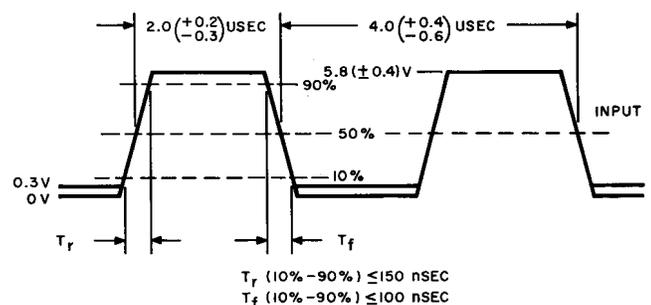
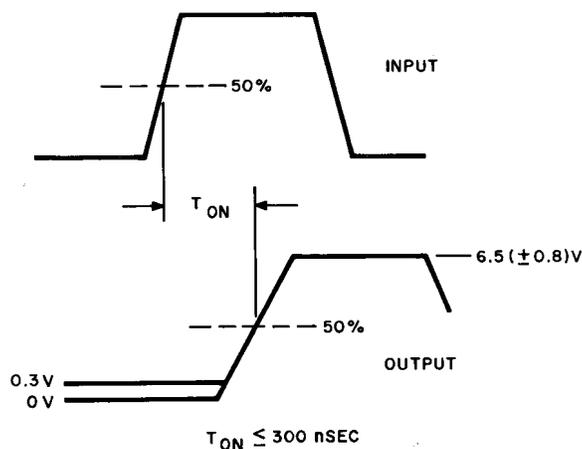
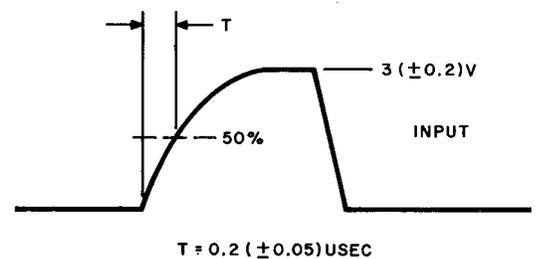

Fig. 8A — Complementary Flip-Flop Test
Fig. 9A — Complementary Flip-Flop Test
Fig. 11A — Complementary Flip-Flop Test
- (1) Connect the EXT SYNC lead to J7 on the test set.
- (2) Connect the CHAN A probe to J7 on the test set.
- (3) Connect the CHAN B probe to J4 on the test set.
- (4) The input test pulse on J7 shall be as specified in Fig. 8A.
- (5) Rotate the INPUT selector through positions 1 to 6.
- (6) The output pulse on J4 of the test set shall be as specified in Fig. 9A at each position.
- (7) Rotate the TEST FUNCTION selector to position 2.
- (8) Repeat as in (5) and (6).
- (1) Connect the EXT SYNC lead to J9 of the test set.
- (2) Connect the CHAN A probe to J9 of the test set.
- (3) Connect the CHAN B probe to J3 of the test set.
- (4) Rotate the TEST FUNCTION selector to position 2.
- (5) Rotate the input selector through positions 1 to 6.
- (6) The output pulse on J3 shall be as specified in Fig. 9A.
- (1) Set the NORMAL-DEGRADED selector to DEGRADED. Adjust the potentiometer P1 until the amplitude of the input test pulse on both J7 and J9 is +3.0 (±0.2) Vdc.
- (2) With the input pulse as shown in Fig. 11A, repeat 3.10A, 3.11A, and 3.12A; however, time base measurements need not be made. Output waveforms shall appear as in Fig. 9A and 10A.